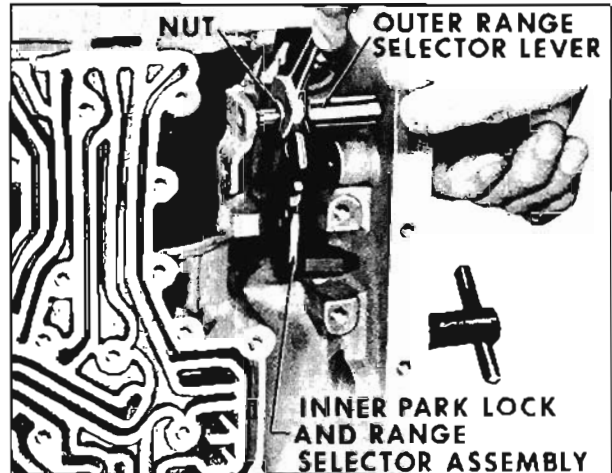

Fig. 6-414 Installing Outer Range Selector Lever
5. Slide outer range selector lever into case and tighten nut using a 9/16" wrench. (Fig. 6-414)